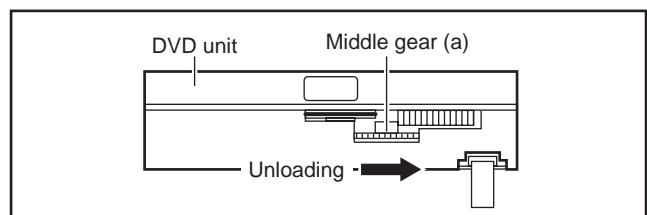

Fig.5-2a
- (1) Unplug the power cord plug from the power outlet.
- (2) Remove the top cover and front panel assembly. (Refer to the disassembly procedure and perform the dis-assembly of the major parts before removing)
- (3) Turn the Middle gear (a) by hand to open the disk tray.(See Fig. 5-2a)